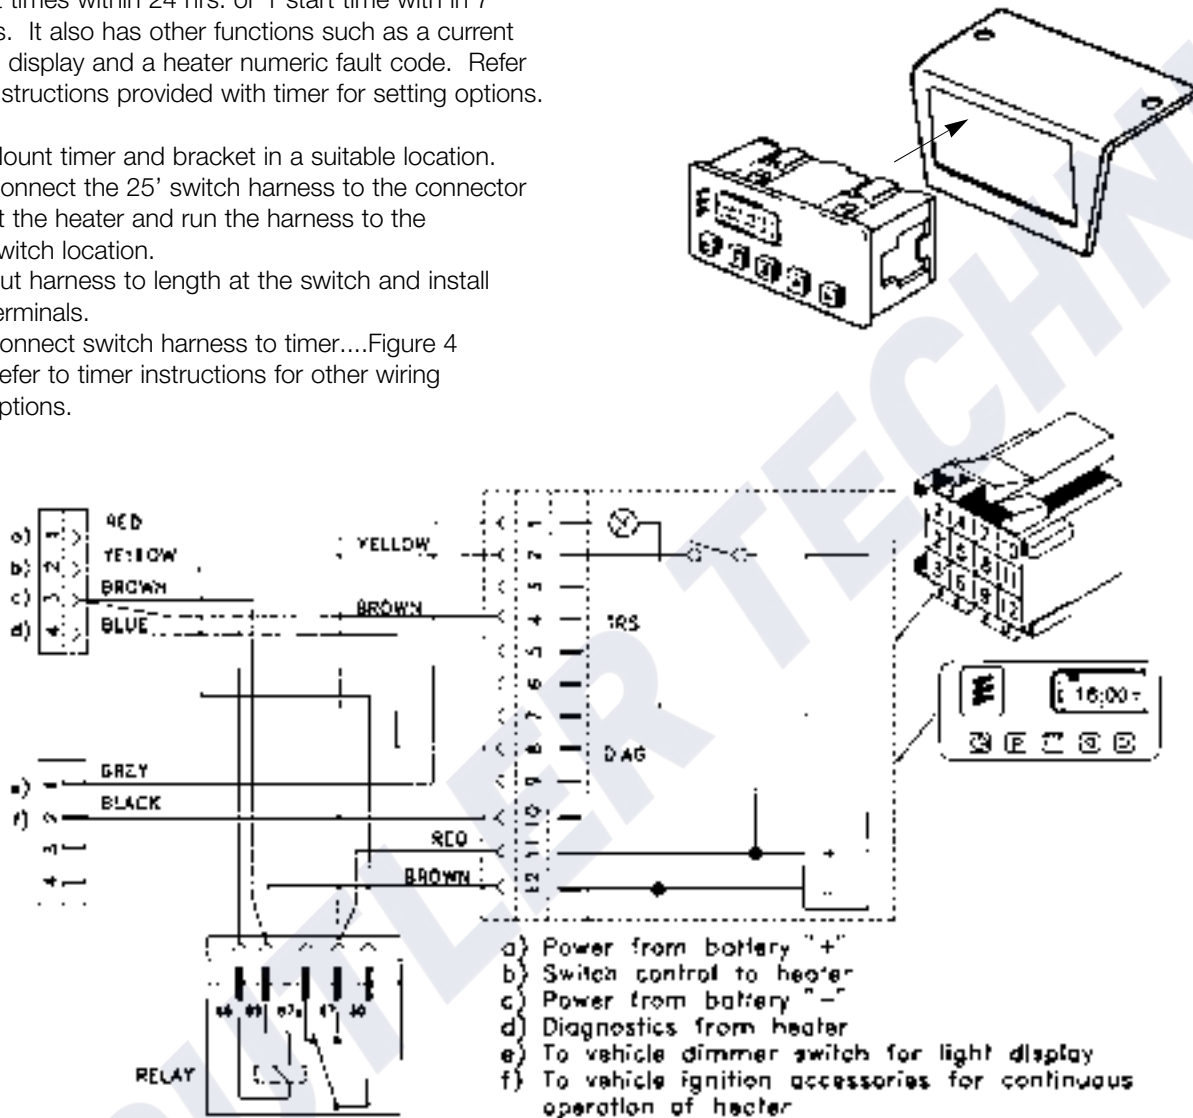

Figure 4
- Connect switch harness to timer....Figure 4